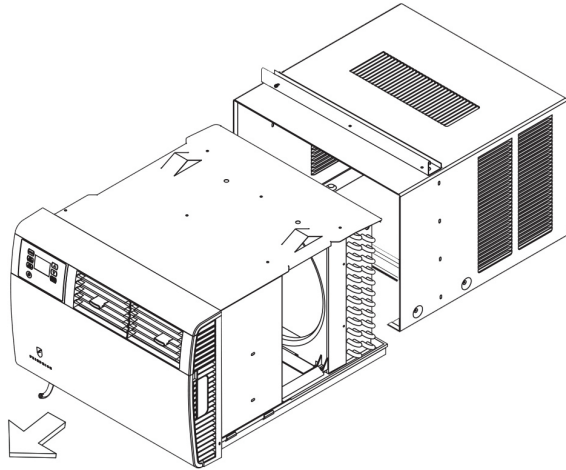

Figure C.5.1
STEP 1. After removing the unit from shipping carton, slide chassis out of sleeve. Hold the cabinet stationary. Then, use the hand grips on both ends of the control unit support bracket to pull the chassis out of the cabinet. (See figure C.5.1)